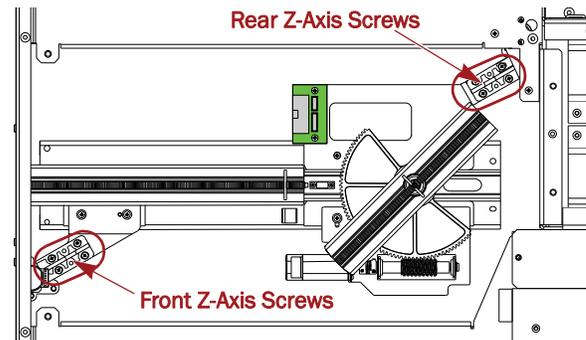

Figure 4. Remove the Z-Axis Screw Rail Screws
- 2. On the **defective Z-Axis**, remove the **four screws and washers** (Figure 4) securing the Screw Rail to the track plate.
- 3. If the track plate is stuck in a raised position, on the **other Z-Axis**, remove the **four screws and washers** (Figure 4) securing the Screw Rail, and carefully lower the track plate to the floor.